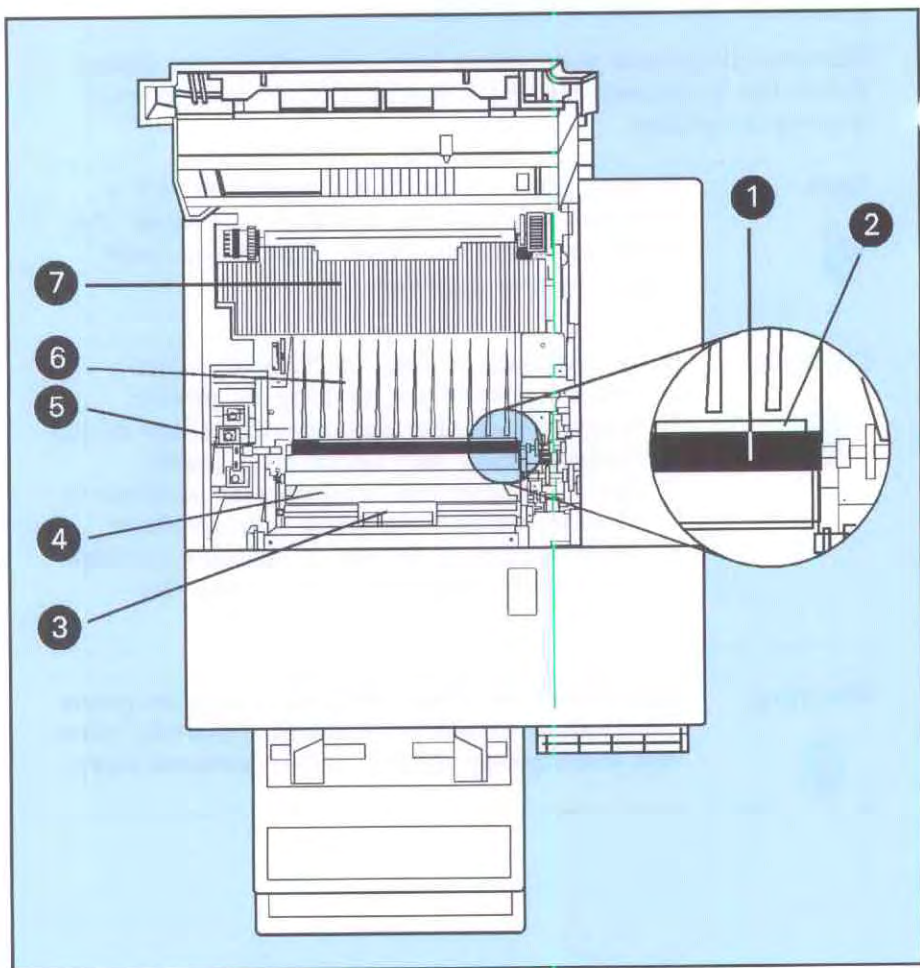

Figure 4-8. Printer Component Locations (Top Cover open)
2. Locate the Cleaning Brush (callout 5 in Figure 4-8).